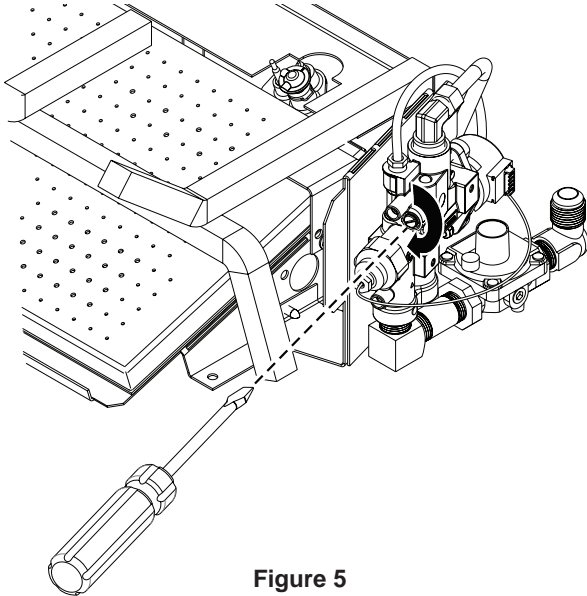

Figure 5
1. The minimum rate screw (brass) is located on the front of the gas valve and is marked by a blue paint dot. Using a small flat-head screwdriver, turn the minimum rate screw clockwise until it bottoms out (approximately 1/2 turn). **See Figure 5.**